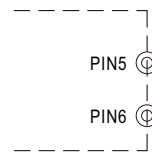

Fig. 4.2 Remove the CN1
- Remove the shorting connector on CN1 that is shown in Fig 4.2, the Overload Protection Type will be "constant current limiting".